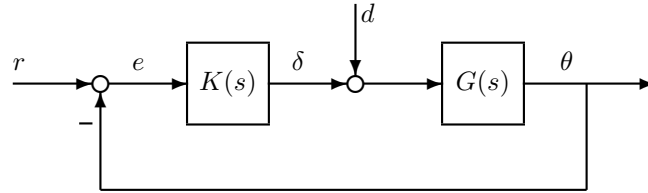

Figure 1: Feedback Loop
- Consider the feedback system shown below in Figure 1.  $d$  denotes a disturbance acting on the rocket. Assume the control law is defined by  $K(s) = \frac{s-0.3}{s+4}$ . Notice that this control law perfectly cancels the unstable pole of the plant. Derive the closed-loop transfer function from  $r$  to  $\theta$ . Remove any pole/zero cancellations. Is this transfer function stable?
Consider the feedback system shown in Figure 1 where  $r$  is the desired arm angle and  $u$  is the input voltage to the drive motor. The dynamics of the control law are described by the following transfer function: